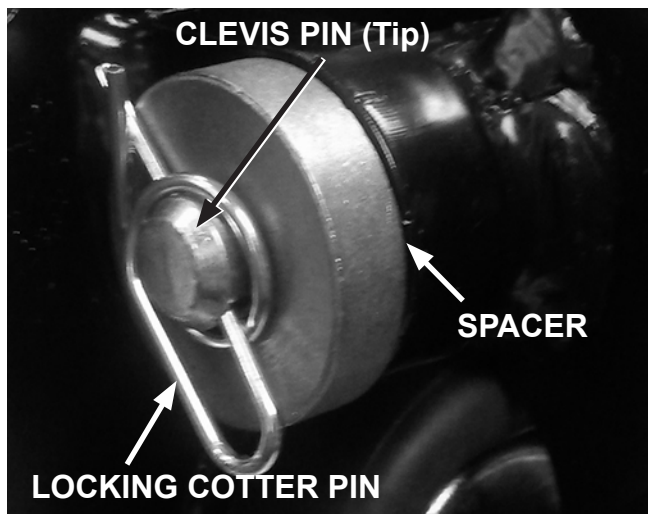

Figure 5 (Fully Engaged Locking Cotter Pin)
7. Reinstall the locking cotter pin that was set aside in step 2, making sure that it is fully engaged over the tip of the clevis pin (See Figure 5).